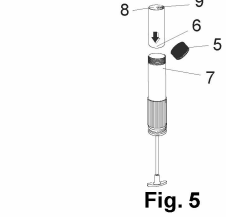

Fig. 5
4. Remove the plastic cup (5) from the bottom of the grease cartridge (6) (Fig. 5).
5. Insert the bottom of the cartridge into the grease barrel (7) and push the grease cartridge all the way into the grease barrel.